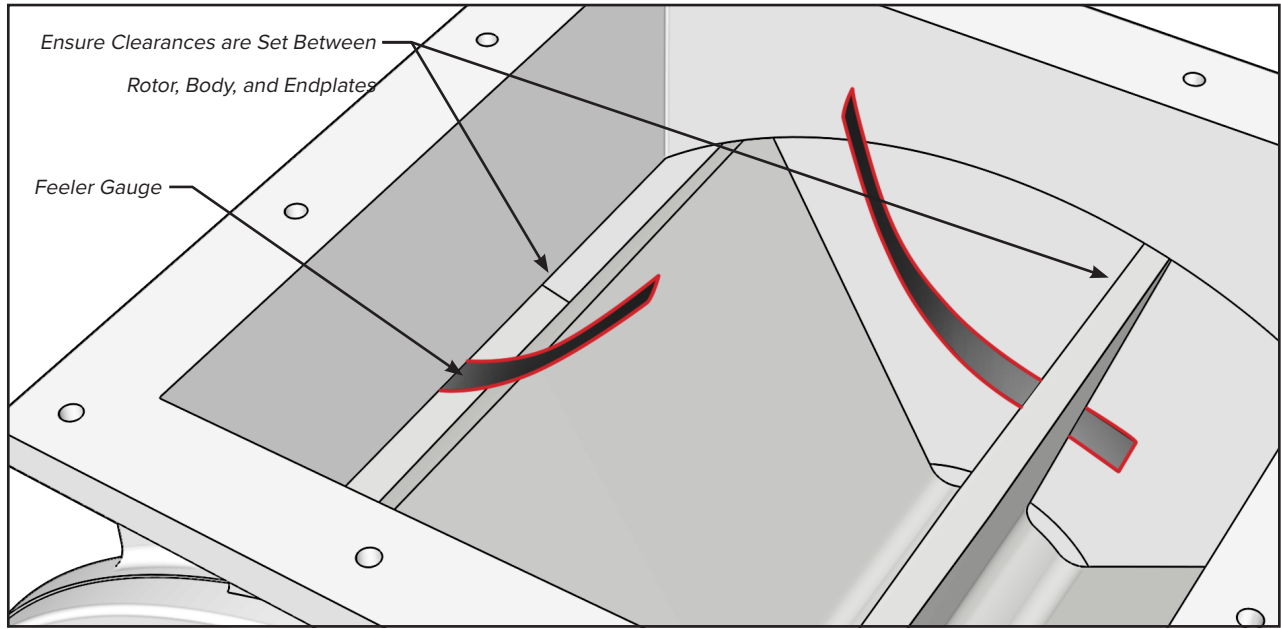

FIGURE 12
- 15. **Verify clearance using feeler gauges that ensure the rotor turns freely (figure 12).**
2. Using a feeler gauge, check the clearance between the rotor and the end plates (figure 12). There should be minimum clearance of 0.003". Refer to Section 9 for clearance information as these may vary depending on operating temperature and valve size.
17. Using a feeler gauge, check the clearance between the rotor and the airlock end plates (Figure 12).